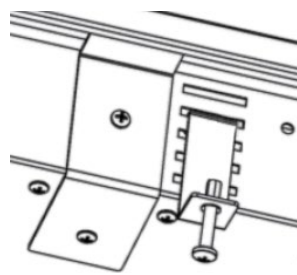

Figure 2
3. The appliance comes with 4 connector brackets and 4 long screws. Slide each bracket into the slots on the front and back of the unit, making sure to use the same mounting location to ensure the dropin is level (see Figure 2).